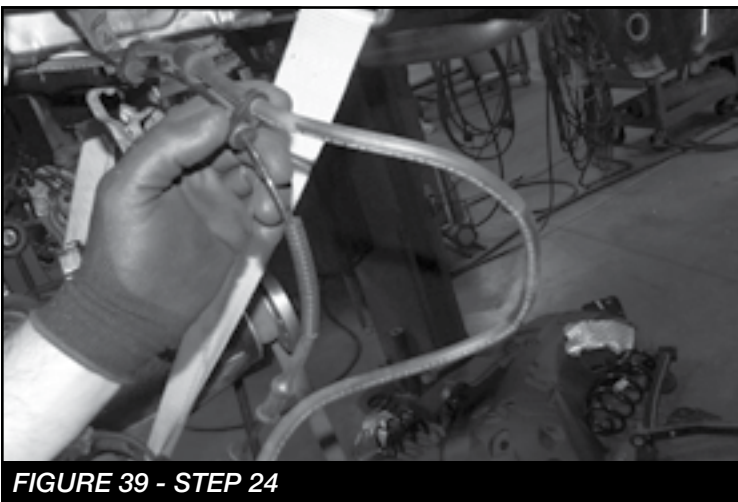

**FIGURE 37 - STEP 23**
23. Install FT50644 (Bump stop spacer) using the supplied FT50060 (Nut tab) and 1/2" bolt, all from FTS24251 or FTS24259 component box kit. **SEE FIGURE 37**